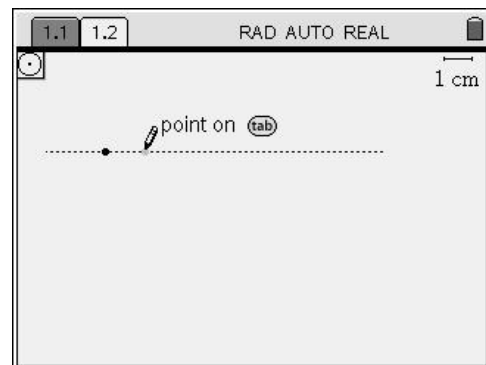

Figure 7
6. Place the circle on the line such that the line completely intersects the circle. First place the center point on the line. To ensure the center pt. is on the line, the text should read, "point on", and the line should be dashed. (Figure 7) Press **enter** and immediately label the point capital "O" by pressing **cap** **O**.